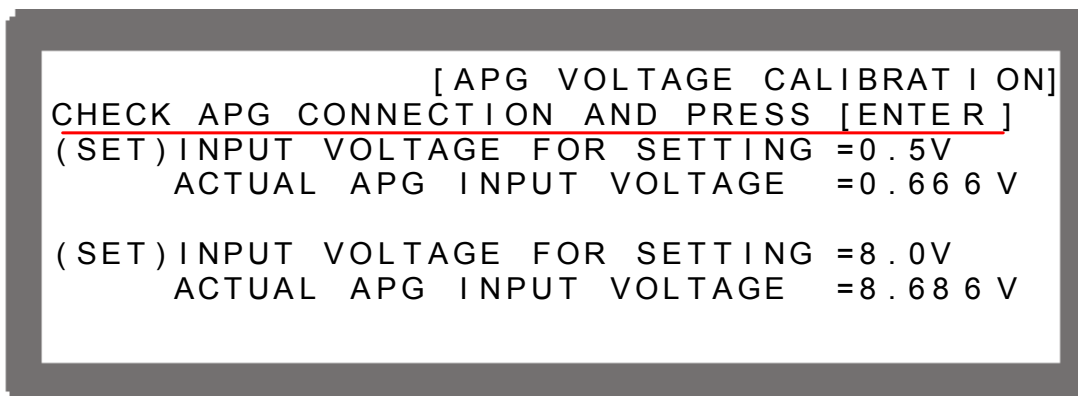

Figure 3-118
2. Press "ENTER" (↵) to confirm entering into APG Voltage Calibration options as Figure 3-118 shows.